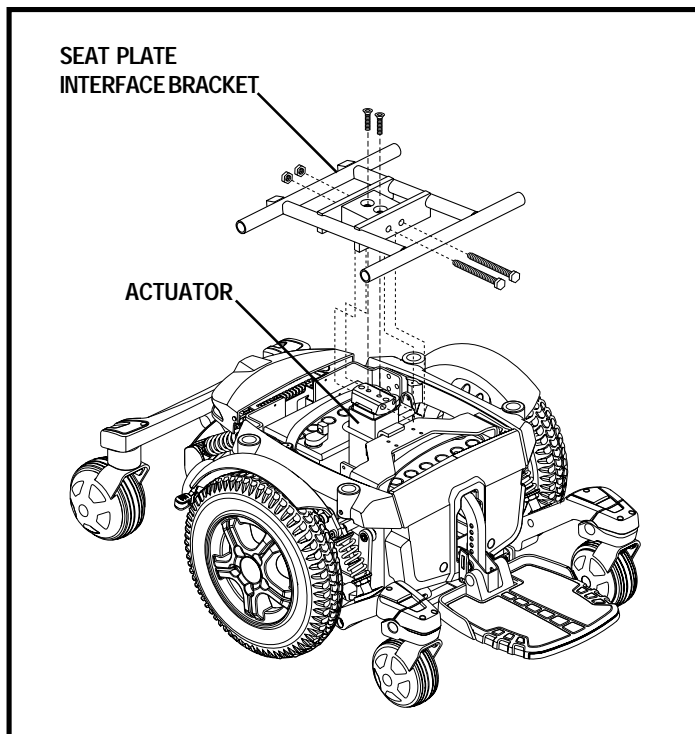

Figure 14. Power Elevating Seat Actuator
1. Place the seat plate interface bracket onto the actuator. See figure 14.